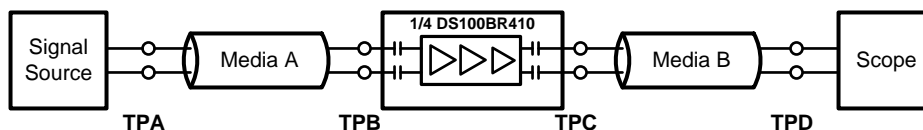

Figure 1. Test Setup Diagram
(3) Measured with clock-like {11111 00000} pattern.
(4) Measured with clock-like {11111 00000} pattern.
(5) The de-emphasis level of -3 dB, -6 dB, -9 dB are for V_{OD} = 1.2 Vp-p. At lower V_{OD} level, the de-emphasis levels are reduced.
(6) Random jitter contributed by the equalizer is defined as sqrt(J_{OUT}² - J_{IN}²). J_{OUT} is the random jitter at equalizer outputs in ps-rms, see point C of Figure 1; J_{IN} is the random jitter at the input of the equalizer in ps-rms, see point B of Figure 1.
(7) Deterministic jitter is measured at the differential outputs (point C of Figure 1), minus the deterministic jitter before the test channel (point A of Figure 1). Random jitter is removed through the use of averaging or similar means.